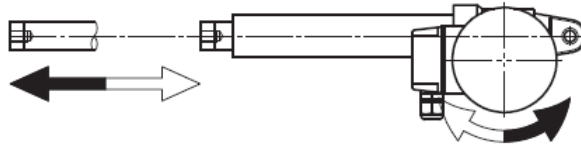

Figure 6.6 – Push rod shifting directions
- The maximum ring positions on the rod consist on the extreme stroke lengths positions “Lc” and “La” (see Fig. 6.6).
- The positions of the two limit switches are the extreme travel positions Lc and La (see Fig. 6.6).